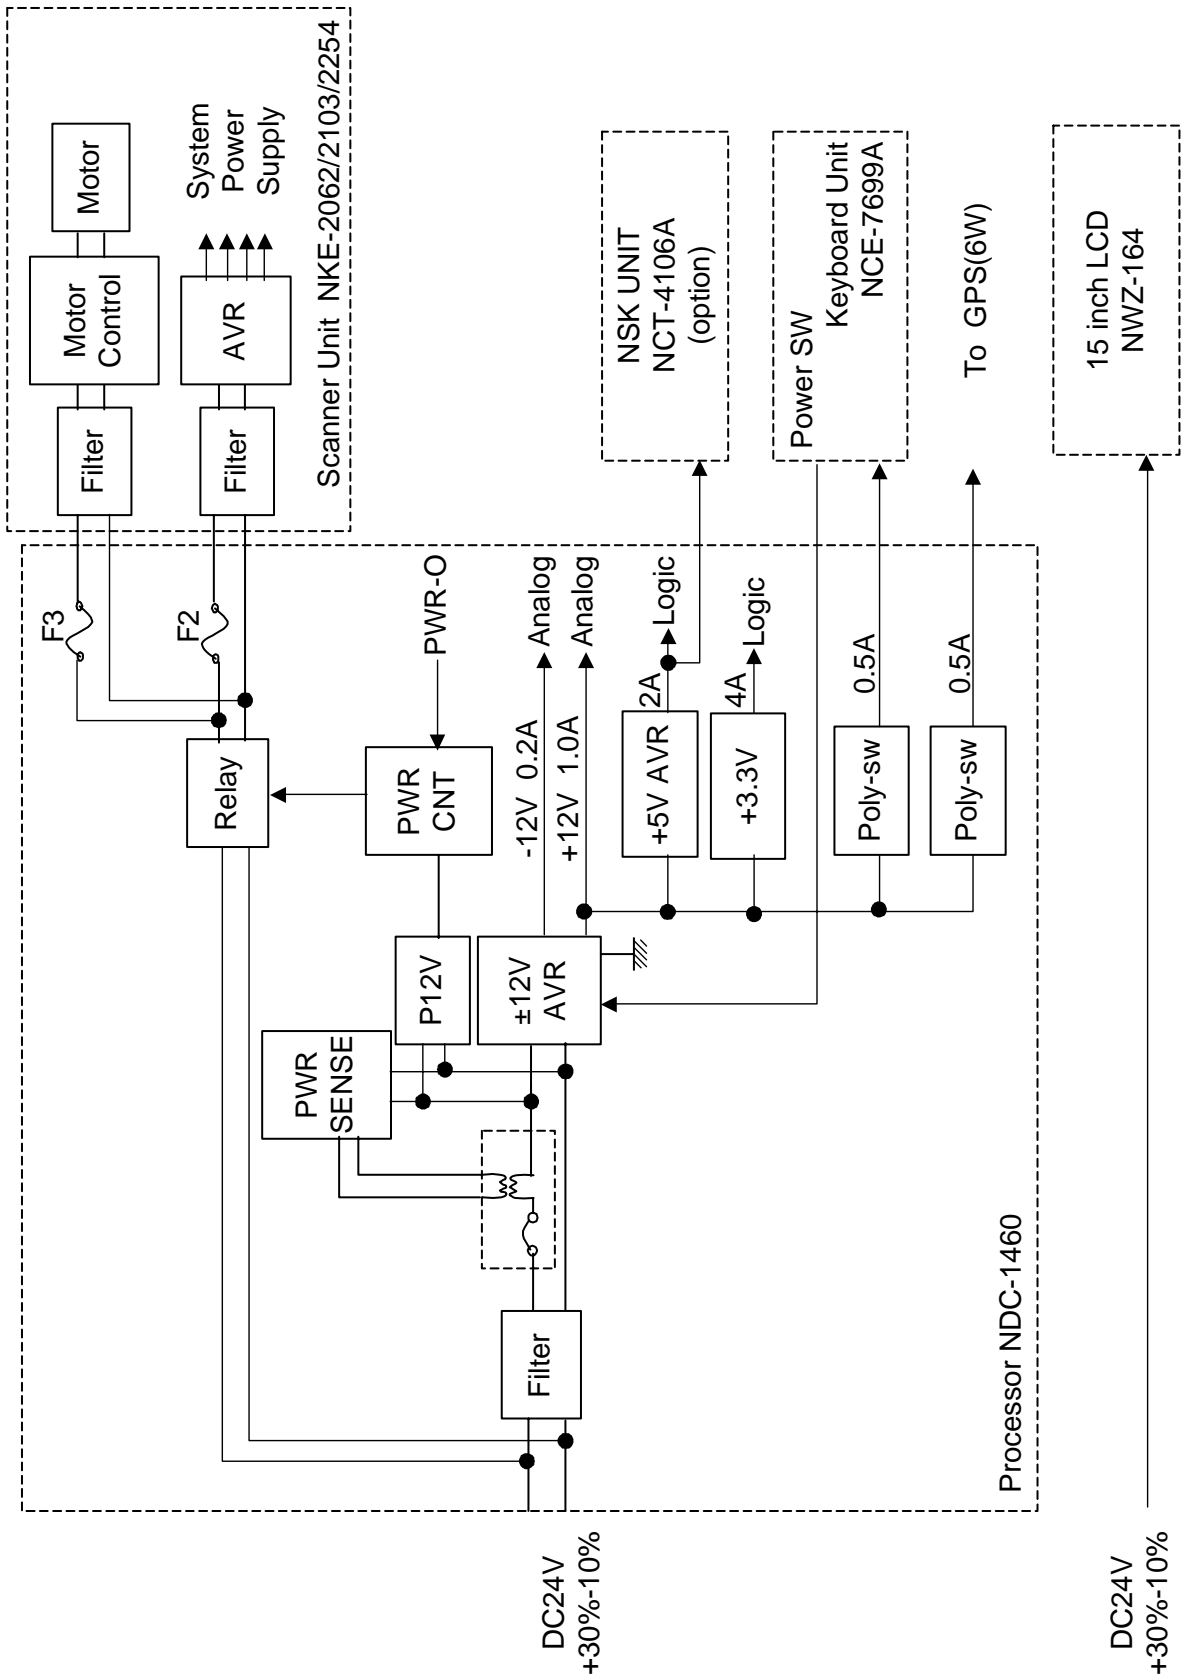

Figure 5 Primary Power Supply Diagram,
- FIGURE 5 PRIMARY POWER SUPPLY DIAGRAM,